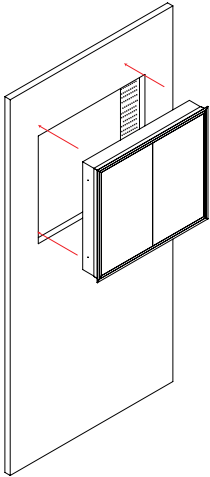

Fig 4.
5. Connect the cabinet to the domestic mains supply according to the wiring diagram, *see page 3*, and position the cabinet into the wall aperture, *see Fig. 4*.